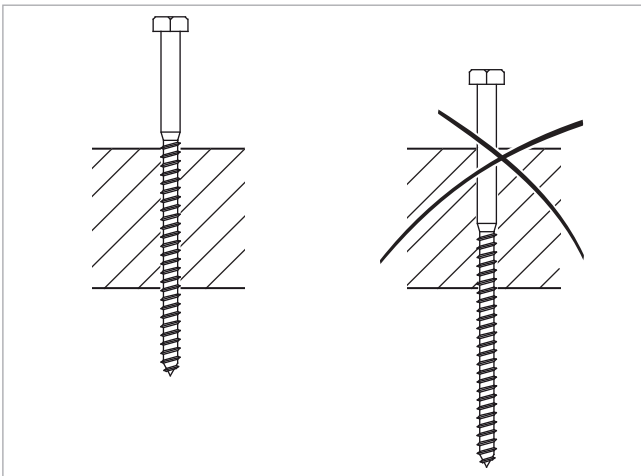

Fig. 18: Position of the hanger bolt in the wood
- 2 Position of the screw → Fig. 18